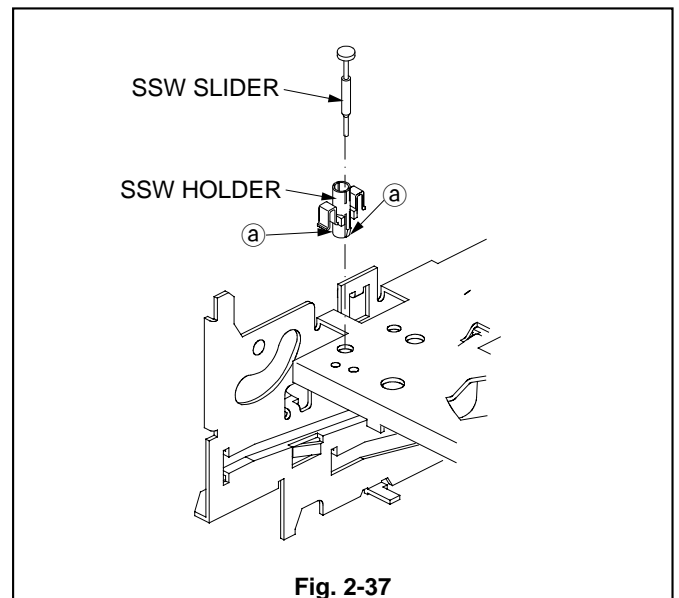

Fig. 2-37
1. Remove the SSW SLIDER shown in the Fig. 2-37 .
2. Unfasten the two catches (a) shown in Fig. 2-37, and remove the SSW HOLDER.
1. Install the SSW HOLDER shown in Fig. 2-37.
2. Install the SSW SLIDER shown in Fig. 2-37.